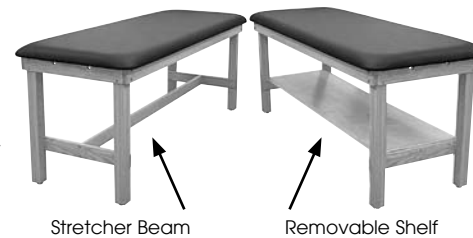

Fig. 1
2. Unfold the legs to a vertical position and install the Long Large Bolts, Washers and Nuts, as shown, on the top of each leg. When placing washers inside of the leg, sandwich 1 Disc Washer between 2 Flat Washers; outside of the leg, use 1 Flat Washer. Using the supplied tools, tighten every bolt -- 8 total -- as tight as possible. (Fig. 1)
2. Unfold the legs to a vertical position on the foot end of the table. Install the Long Large Bolts, Washers and Nuts, as shown, on the top of each leg. (see Fig. 1) When placing washers inside of the leg, sandwich 1 Disc Washer between 2 Flat Washers; outside of the leg, use 1 Flat Washer. Using the supplied tools, tighten every bolt -- 4 total -- as tight as possible.